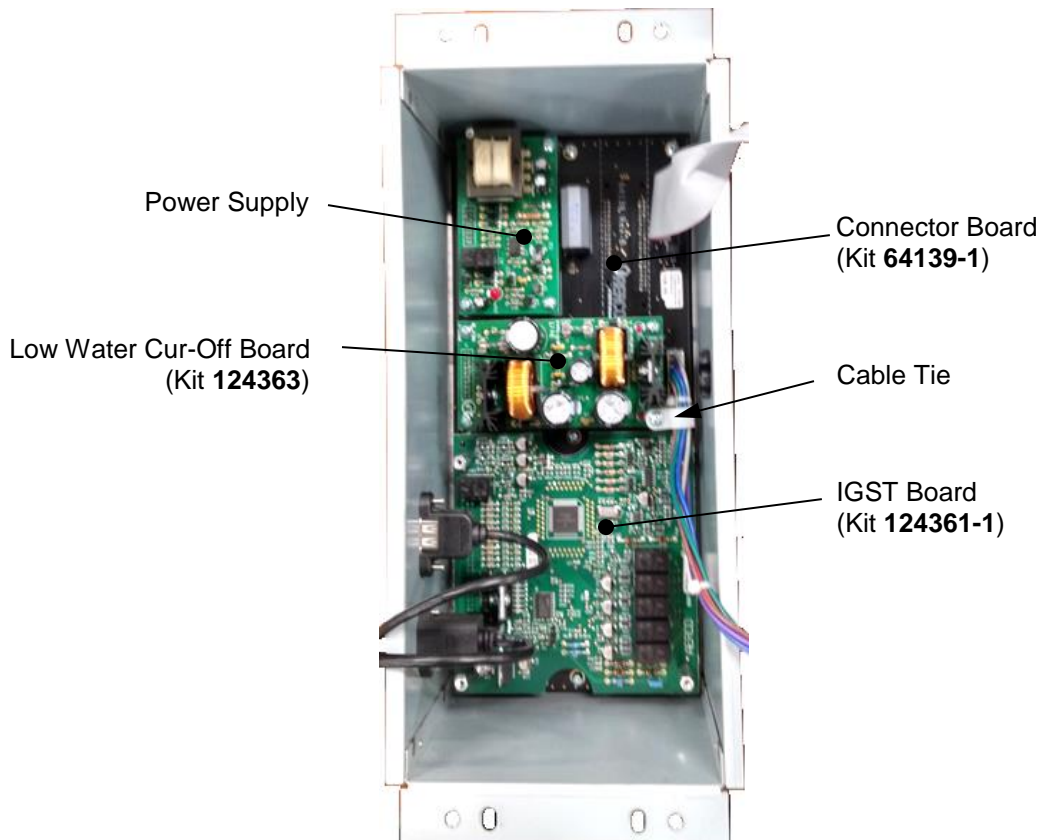

Figure 9 – Edge [ii] Controller – IGST Board Exposed
2. Remove the four (4) screws or bolts holding the Edge Controller to the front face of the unit, then pull the Controller out of the unit and lay it on a clean, flat surface.
4. Remove the screw from the cable tie (see Figure 9, above), then disconnect the connector from the Power Supply Board.